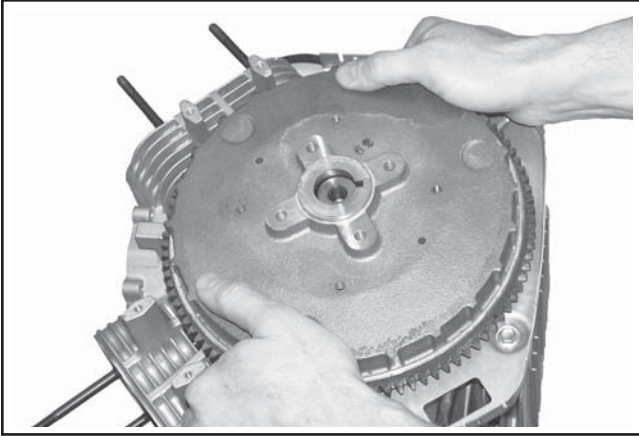

Figure 10-21. Carefully Align Keyway to Key.
2. Install the flywheel onto the crankshaft being careful not to shift the woodruff key. See Figure 10-21.